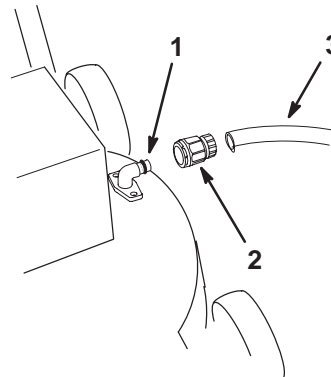

Figure 23
3. Attach the coupling to the washout fitting (Fig. 23).